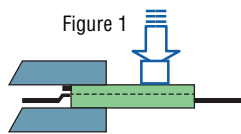

Figure 1
- a) Do not apply more than 5 N moment to the breaker body (refer to Figure 1)